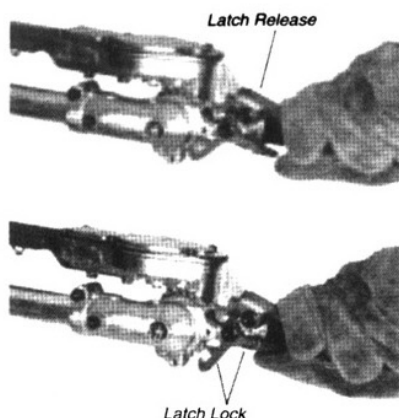

Figure 2
2. With the index finger of your left hand, press the latch release. With your left thumb, press the latch lock. See Figure 2.